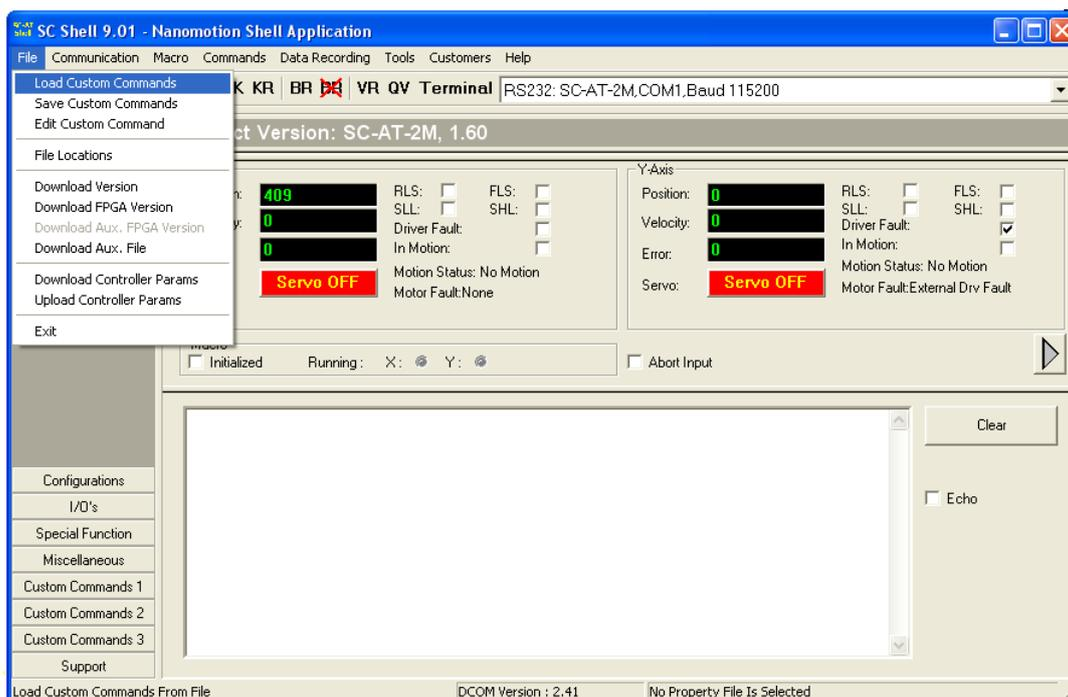

Figure 21: Custom Commands Installation
1. To install the custom commands, on the "File" menu click "Load Custom Commands" (see Figure 21). Select the **FlexDC_Custom Commands v1.01.scc** script file in the "Load Custom Controls" window and press OK.